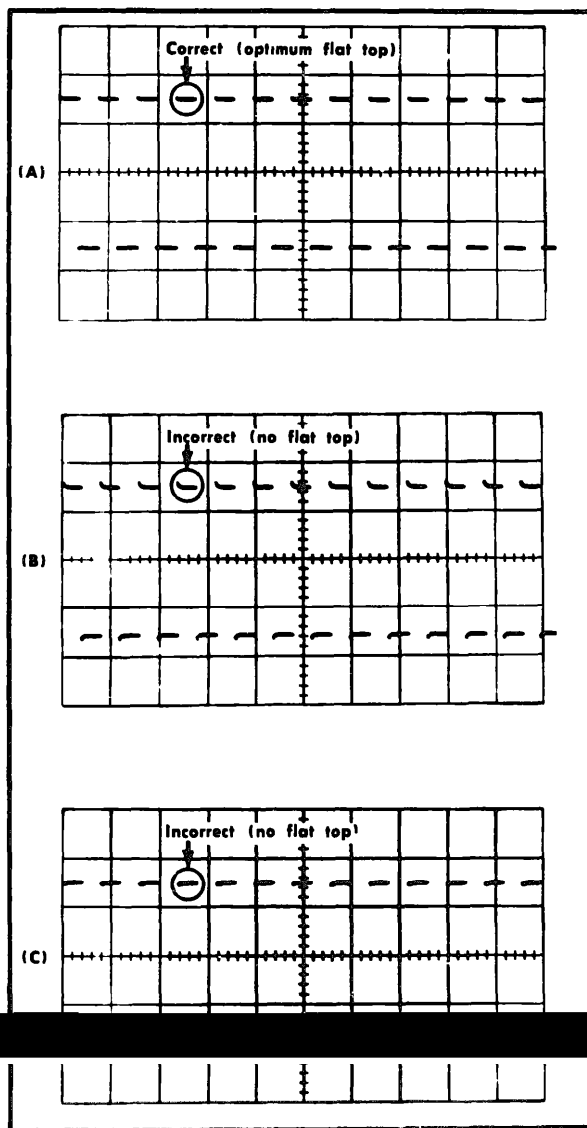

Fig. 6-2 (A) Typical CRT display showing correct VOLTS/CM switch compensation, (B) and (C) incorrect compensation.
- e. Check-Compensation of the waveform for level flat top, overshoot and undershoot at all VOLTS/CM switch settings, for deviation less than $\pm 3\%$ (1.2 mm), see Fig 6-2 Adjust the output of the generator to maintain about 4 cm of display amplitude It will be necessary to remove the 50 ohm termination at VOLTS/CM settings higher than 1 volt.